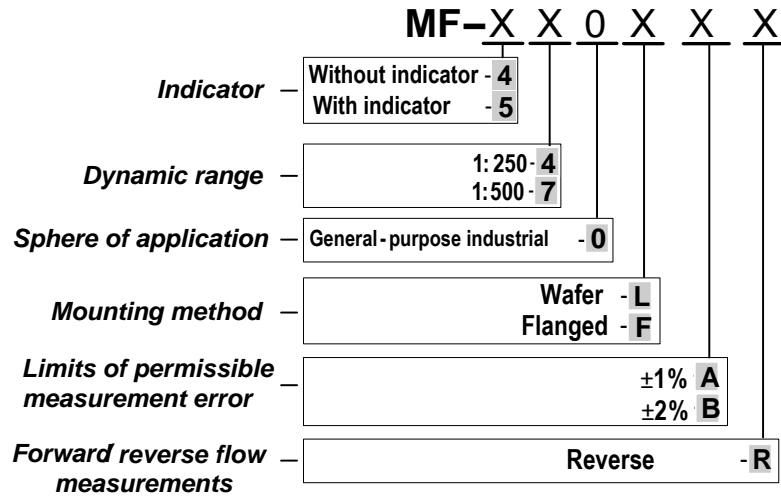

Fig.1. Design options available for Lite M modification
1.2.2. AFLOWT MF legend representing options to be selected by the customer is shown in Fig.1.